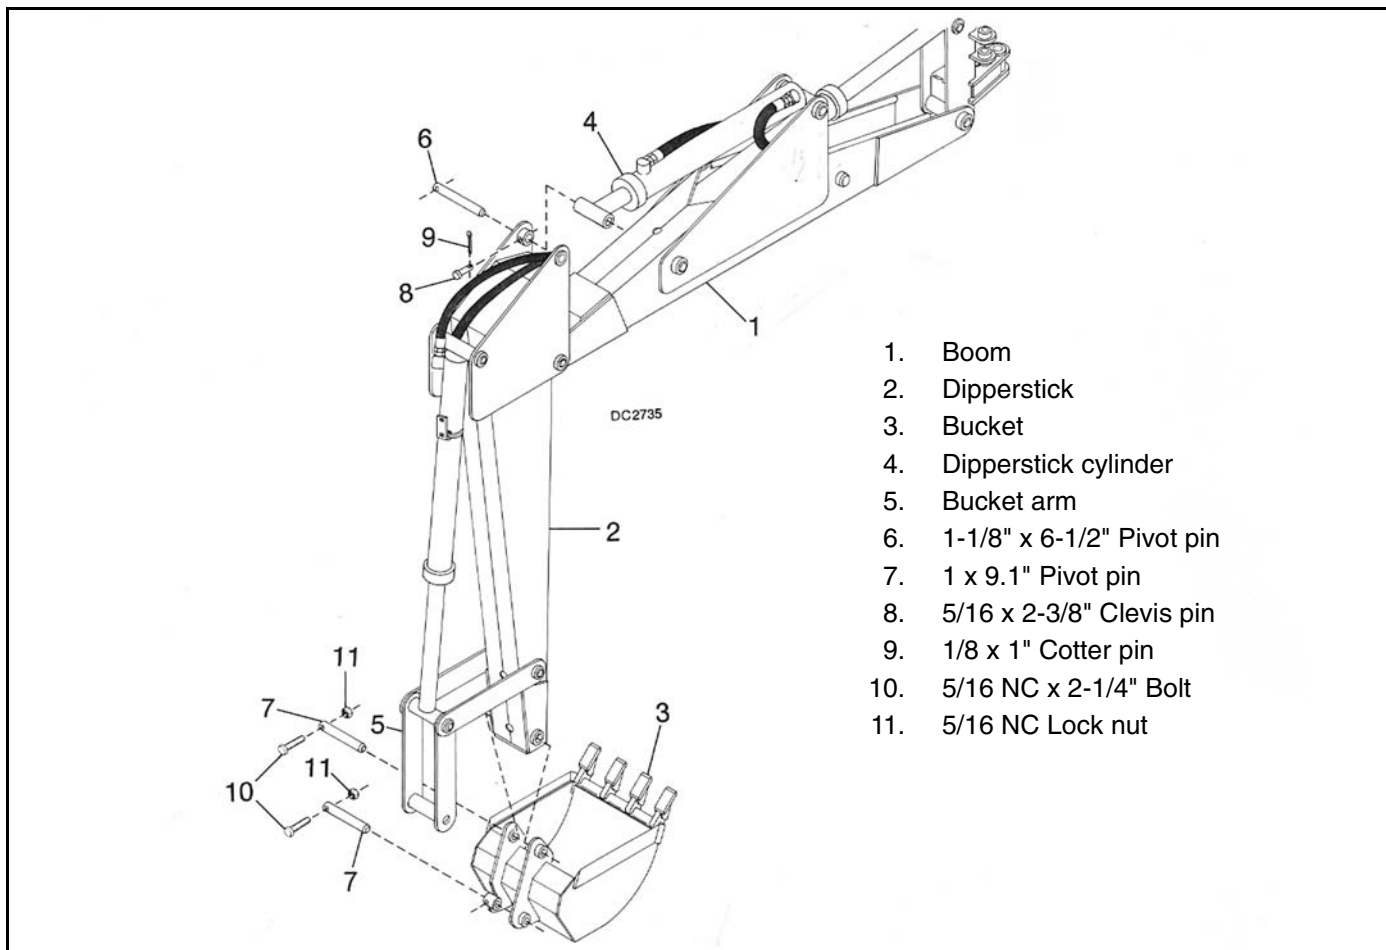

Figure 20. Dipperstick & Bucket Assembly
Align dipperstick cylinder (4) with dipperstick (2) and install pivot pin (6) as shown in Figure 20. Line up hole in pivot pin (6) with hole in pivot bushing and secure with clevis pin (8) and cotter pin (9).